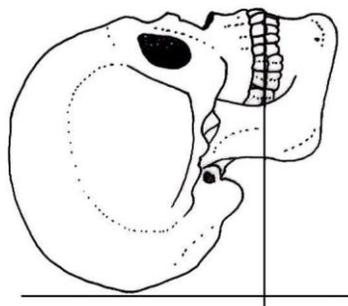

Figure 1. Gantry tilt = 0 degrees and Occlusal plan parallel to Gantry.
4. **Position occlusal plane parallel to the Gantry (Figure 1).**